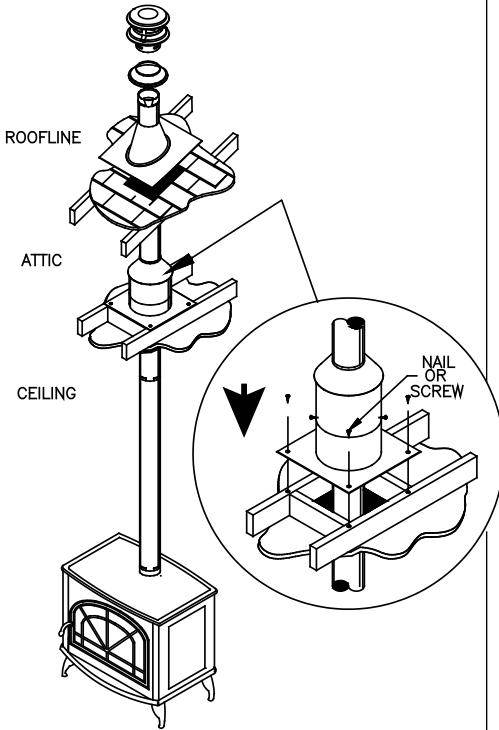

Figure 6
PelletVent Pro does not need sealant to be used at pipe joints, but in certain circumstances sealant may be used if desired. Seal the inner liner overlap at the male end of pipe for best results (*Figure 6*)
G. When the PelletVent Pro enters the attic, install an Attic Insulation Shield around the vent (**Figure 6**). This will prevent insulation and debris from collecting near the vent pipe. Use (4) nails or wood screws to secure the base of the Attic Insulation Shield to the framed opening. Adjust the height of the Attic Insulation Shield by sliding the top cylindrical shield over the one from the base. Insure that the top of the Shield is above the level of building insulation. Secure the Shield in place with at least two (2) sheet metal screws through the side of the cylindrical shield. Attach collar around pipe, then lower to the top of the Attic Insulation shield.